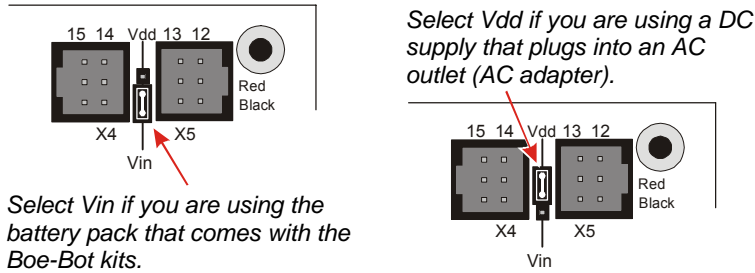

Figure 2-12
Figure 2-12 shows the servo header on the Board of Education Rev C. This board features a jumper that you can use to connect the servo's power supply to either Vin or Vdd. To move it, you have to pull it upwards and off the pair of pins it rests on, then push it onto the pair of pins you want it to rest on.
- ✓ If you are using the 6 V battery pack, make sure the jumper between the servo ports on the Board of Education is set to Vin as shown on the left of Figure 2-12.
- ✓ If you are using a 7.5 V, 1000 mA center positive DC supply, set the jumper to Vdd as shown on the right side of Figure 2-12.